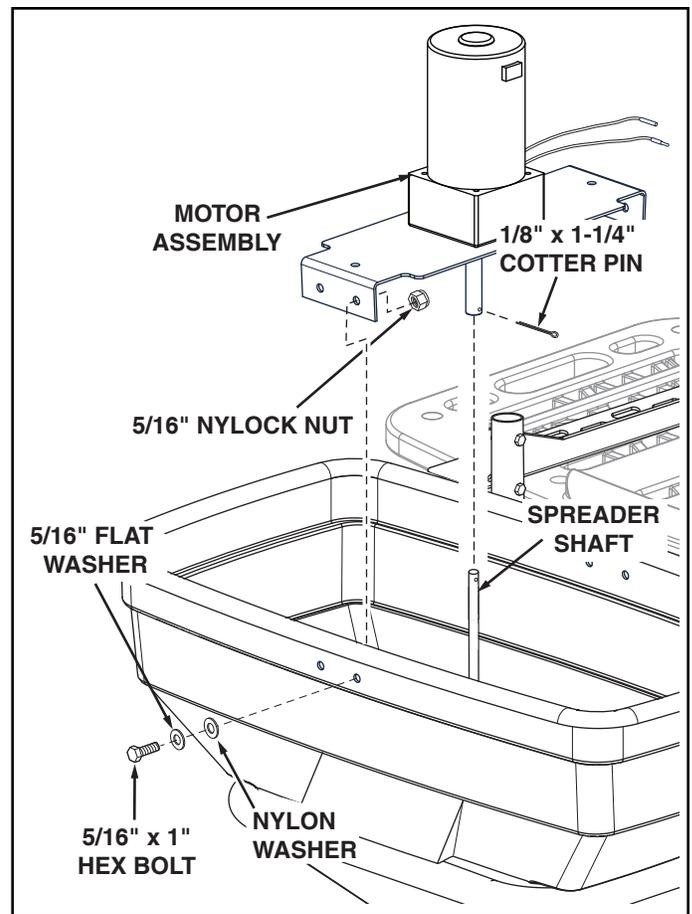

FIGURE 11
17. Attach the flow control to the motor mount bracket on the spreader using the 5/16" x 1" carriage bolt, a mounting clamp and a plastic knob. See figure 11.